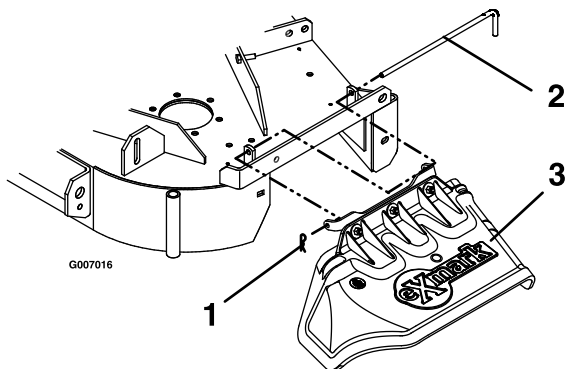

Figure 7
6. Install the discharge chute using the chute pivot pin and hairpin (see Figure 7).